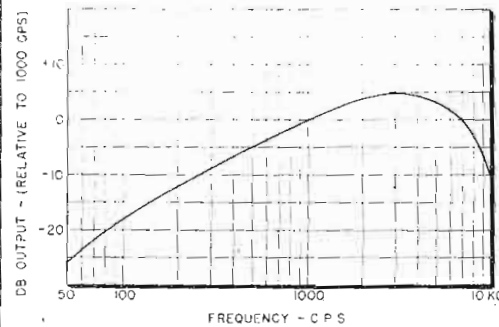

Fig. 14: Constant current response, 140A tape
that the output voltage is directly proportional to frequency, so we expect the output voltage to rise 6 db for every octave increase in frequency. This is borne out in the response curve of Fig. 14. Here the playback of a tape, recorded with constant current in the head, rises about 6 db per octave in the range from 100 to 1000 cycles. Above 1000 cycles the losses tend to reduce C , G , and ϕ_r of Eq. (1):
These factors stop the rise in output voltage with rising frequency. Above 3000 cycles the output in Fig. 14 falls off, until at 10 kc it is 15 db below the peak.
At low frequencies, if wavelengths become longer than the head itself, the magnetic coupling of tape to head becomes inefficient and the output falls more rapidly than 6 db per octave. We begin to notice this effect in Fig. 14 below 100 cycles.